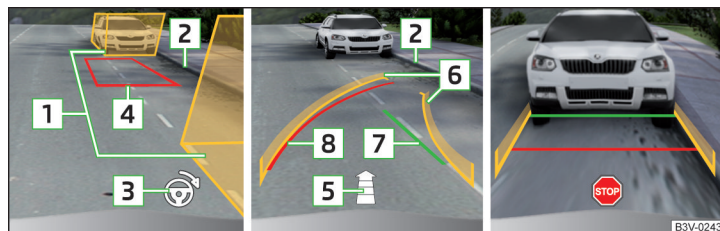

Fig. 267 Screen display
- › Stop the vehicle stop so that there are no obstructions in the gap between the auxiliary boxes **1** » Fig. 267 and the rear box does not extend over the side of the parking space **2** (e.g. kerb).